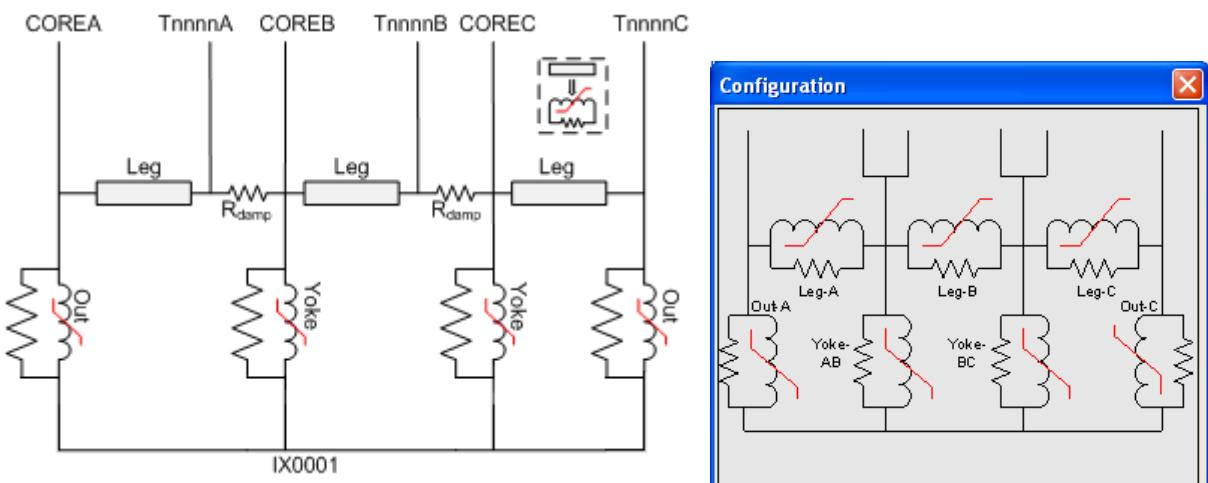

Fig. 7.7 – 5-legged stacked core model. The  $\alpha\beta\gamma$  terminals are the  $n_w+1$  winding.
The core model is connected to the “core winding” terminals of the A-matrix. Triplex (single phase cores), stacked cores with three and five legs, and shell form cores are supported. Basically the inductive and resistive core parts are treated independently, but this is a point that requires more research particularly for 3- and 5-legged cores where harmonics in the flux creates additional losses. The core losses are represented by a linear resistor and the nonlinear inductances are modeled by the Frolich equation (10). Each part of the core is modeled with its own core loss resistance and nonlinear inductance using information about their relative cross section and length to scale the values. Fig. 7.7 shows the core model for a 5-legged transformer.
The core loss is split in parts associated with individual core sections. It is assumed that the core loss is proportional to the core volume and to the square of the rms voltage across each section of the electric dual. The voltage,  $U_o$ , in the neutral point in Fig. 7.7 (node IX0001) is the time derivative of the neutral flux found during the Frolich optimization described above. It is assumed that the inductive current components determine the voltage distribution. For a 5-legged core
This results in a sequence of excitation points ( $U_{rms}$  and  $I_{rms}$ ). The magnetic circuit in Fig. 7.7 assuming sinusoidal fluxes is solved and the rms values of the line currents are calculated and compared to measured ones. Optimized values of  $a'$ ,  $b'$  and  $c'$  (optional) in (12) are found by a Gradient Method implemented in ATPDraw. If a single point is specified, the core model is linear.